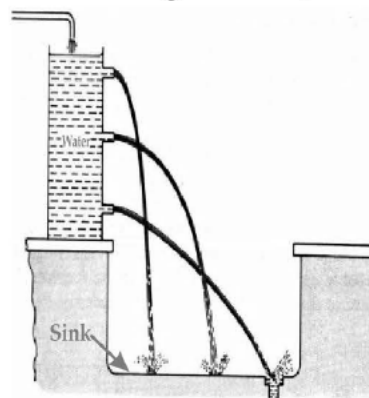

Fig 5.13
9. The Fig 5.13 shows a container with three spouts. The container is filled with water. Jets of water pour out of the spouts. Why does the jet of water from the bottom spout goes farthest out from the container?